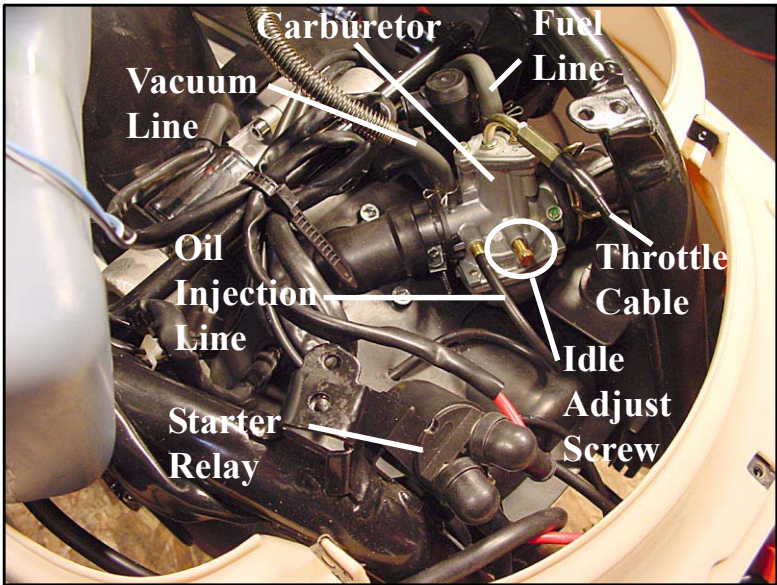

Fig. 26
- Loosen the hose clamp and pull the fuel line from the carburetor. (See Fig 26)